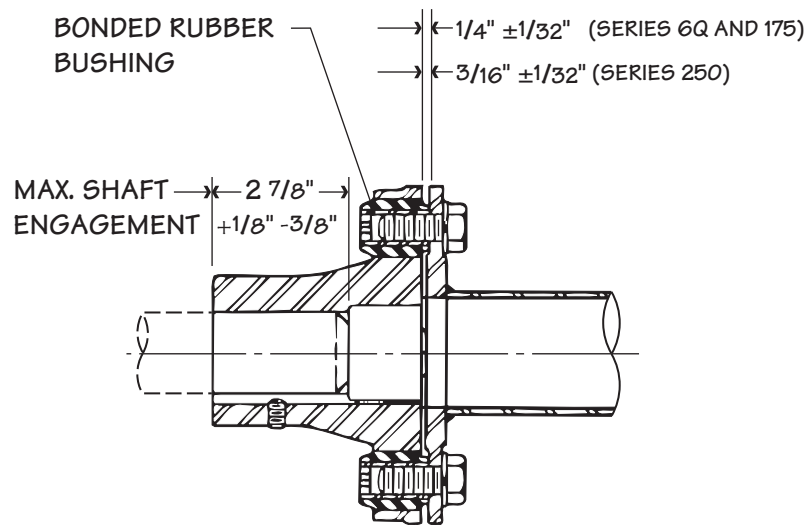

Figure 4 Series 250 shown
Note match numbers on the driveshaft flanges and remove the yokes. Coat the motor shaft and Geareducer shaft with "Thred-Gard" (Crane Packing Co.) or similar lubricant. Place the key halfway in motor and Geareducer shafts, then install yokes as shown in Figure 4. Use a rubber mallet or wood block when tapping yokes to prevent damage. Tighten each yoke set screw against key.
Align match numbers on tube and yoke flanges and bolt the tube and flange assembly to the Geareducer yoke while supporting the motor end of the tube and flange assembly. Progressively tighten bolts to 60 ft·lbf (82 N·m) torque. Slide the motor so that motor yoke can be bolted to the tube and flange assembly without pushing or pulling on the bushings. Align match numbers and bolt the motor yoke to the tube and flange assembly. Progressively tighten bolts to 60 ft·lbf (82 N·m) torque. The distance between tube and yoke flanges should be as shown in Figure 4.
until the total indicator reading at each end is within .005". Tighten all mounting bolts on the motor and Geareducer, and recheck alignment. Maintain gap between face of flange and face of yoke as shown in Figure 4.
8. If the motor has been moved back to permit removal of the tube and flange assembly, reposition the motor, being sure that flange spacing is maintained. See Figure 4. Tighten the $\frac{5}{8}$ " machine bolts or cap screws to 60 ft-lbf (82 N·m) torque. For the Series 6Q and Series 175 driveshaft, use an Allen wrench to prevent bushing from rotating in its socket. Recheck driveshaft alignment and tighten motor mounting bolts.